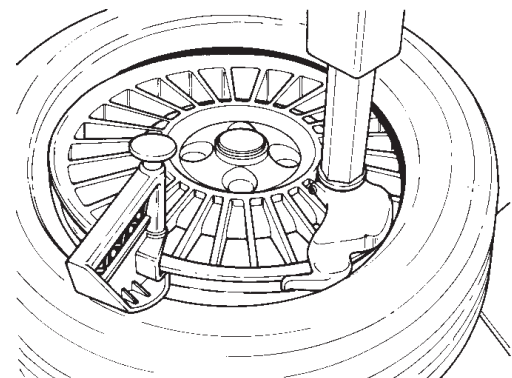

Fig. 4.2-4
C. Mount the upper bead following the same directions in section B. With low profile tires the Bead Holding Clamp (option EAA0247C70A Fig. 4.2-4) can help to prevent the top bead from prematurely seating during the mounting cycle. At the same you can use the PBA assist **NOTE:** Bead Holding Clamp must be removed prior to coming full circle and impacting the mount/demount head.